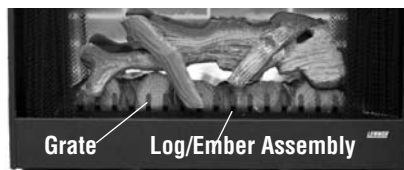

Figure 12
4. Remove the 2 screws on the front of the grate (see **Figure 12**). Also see item #7 on **Page 17**). Remove Grate.